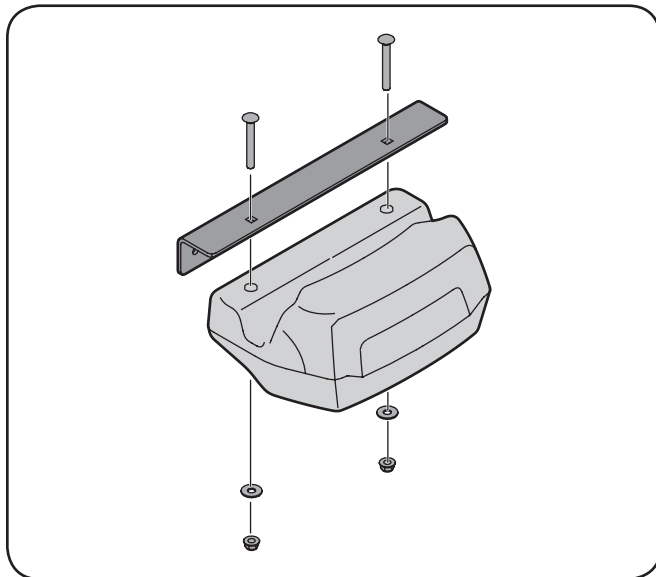
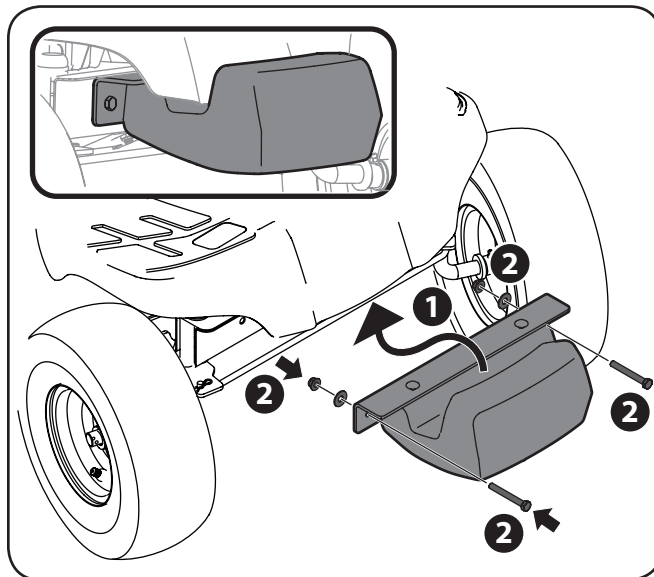

Figure 4-8
Figure 4-10
Assemble, then attach the weight bar to the counter weight assembly using the hardware in pack 683-05063, as shown in Figure 4-8 and Figure 4-10.
1. Install the counter weight mounting bracket to the counter weight using two 710-0572 carriage bolts, two 736-0159 flat washers and two 712-04063 flange lock nuts from hardware pack 683-05063. See Figure 4-8.